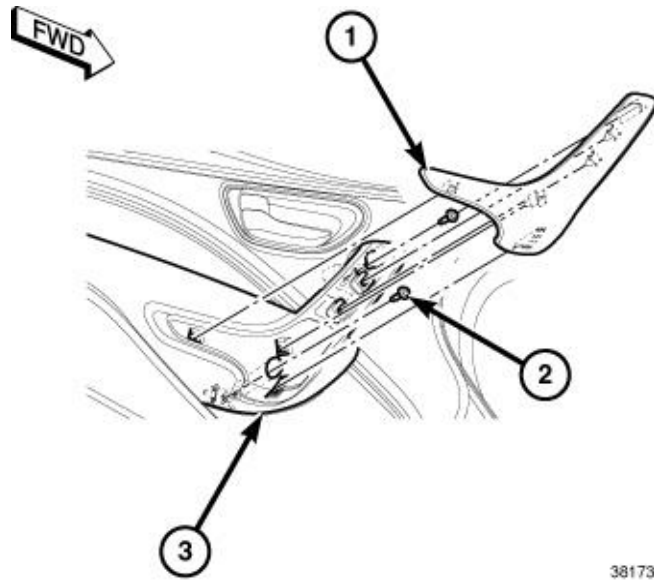

Fig. 16 Door Handle Trim Bezel
42. Install the two fasteners (2) securing the trim panel to the carrier plate. Tighten the fasteners securely (Fig. 16).
43. Align and position the interior pull handle trim bezel (1), hand tap to engage the retaining clips (Fig. 16).